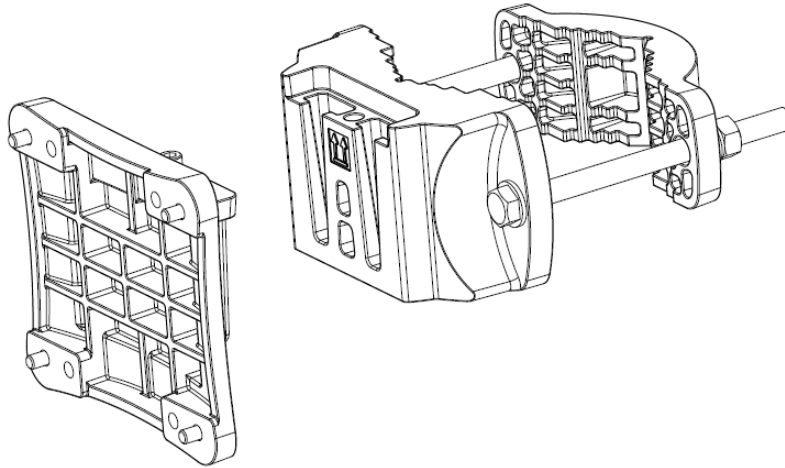

Figure 3-7 Disassemble RRU mounting components
1. Loosen the fastening screws on the mounting back frame. Disassemble the RRU mounting components into two parts, i.e. RRU mounting back frame and pole mounting part, as shown in Figure 3-7